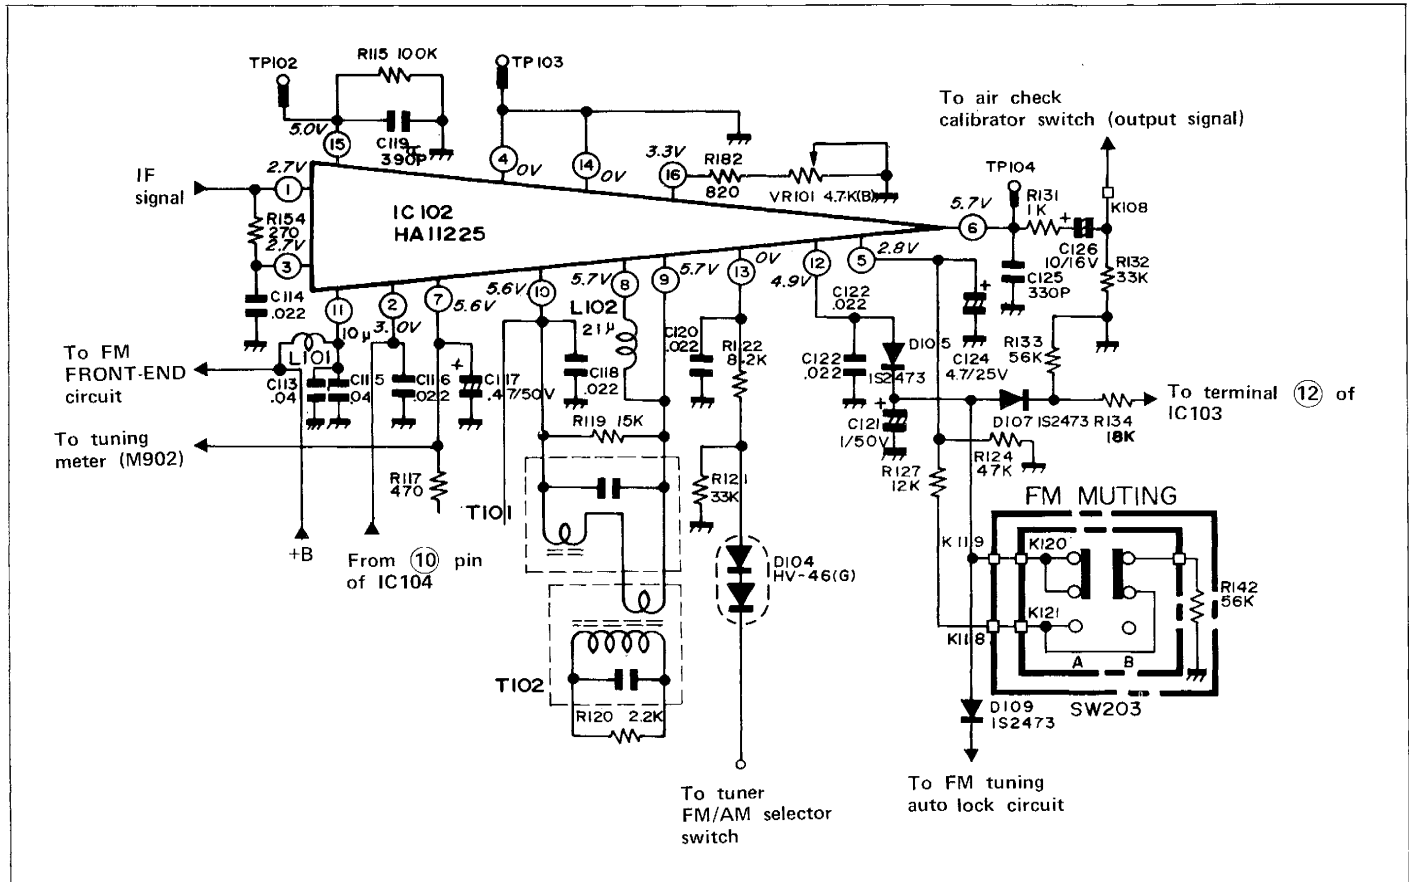

Figure 9-3 FM DETECTOR CIRCUIT
**FM MUTING CIRCUIT** (Refer to Fig. 9-3 and 9-4)